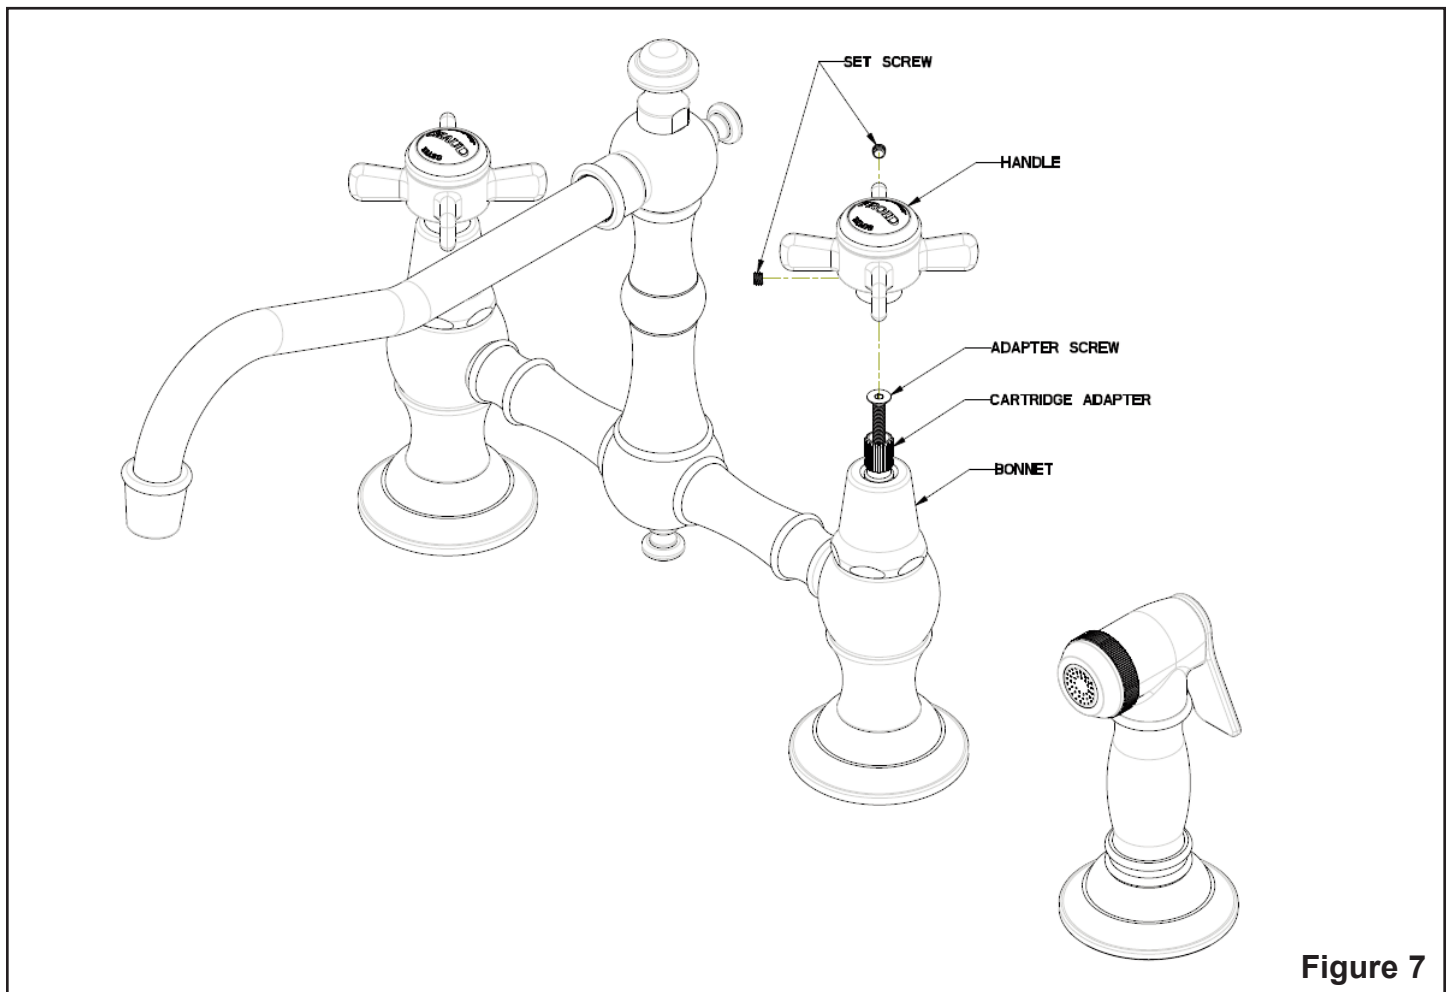

Figure 7
1. In **Figure 7**, ensure cartridges in full closed position and check HANDLE alignment. If the HANDLE is not correctly aligned, temporarily remove the HANDLE, loosen up (but do not completely remove) the SET SCREWS.